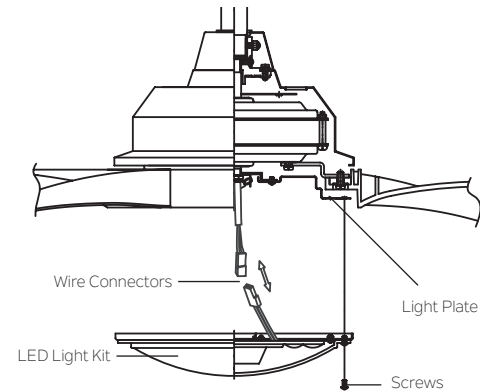

Fig. 17
**Step 1.** Remove the two mounting screws on the inside of the LED light kit. (Fig.17)
**Step 2.** While holding the LED light kit under the fan motor, make the wire connections: (Fig. 17)
**Step 3.** Tuck the connections neatly into the light plate. Place the LED light kit close to the light plate, secure by tightening the two screws. (Fig.17)